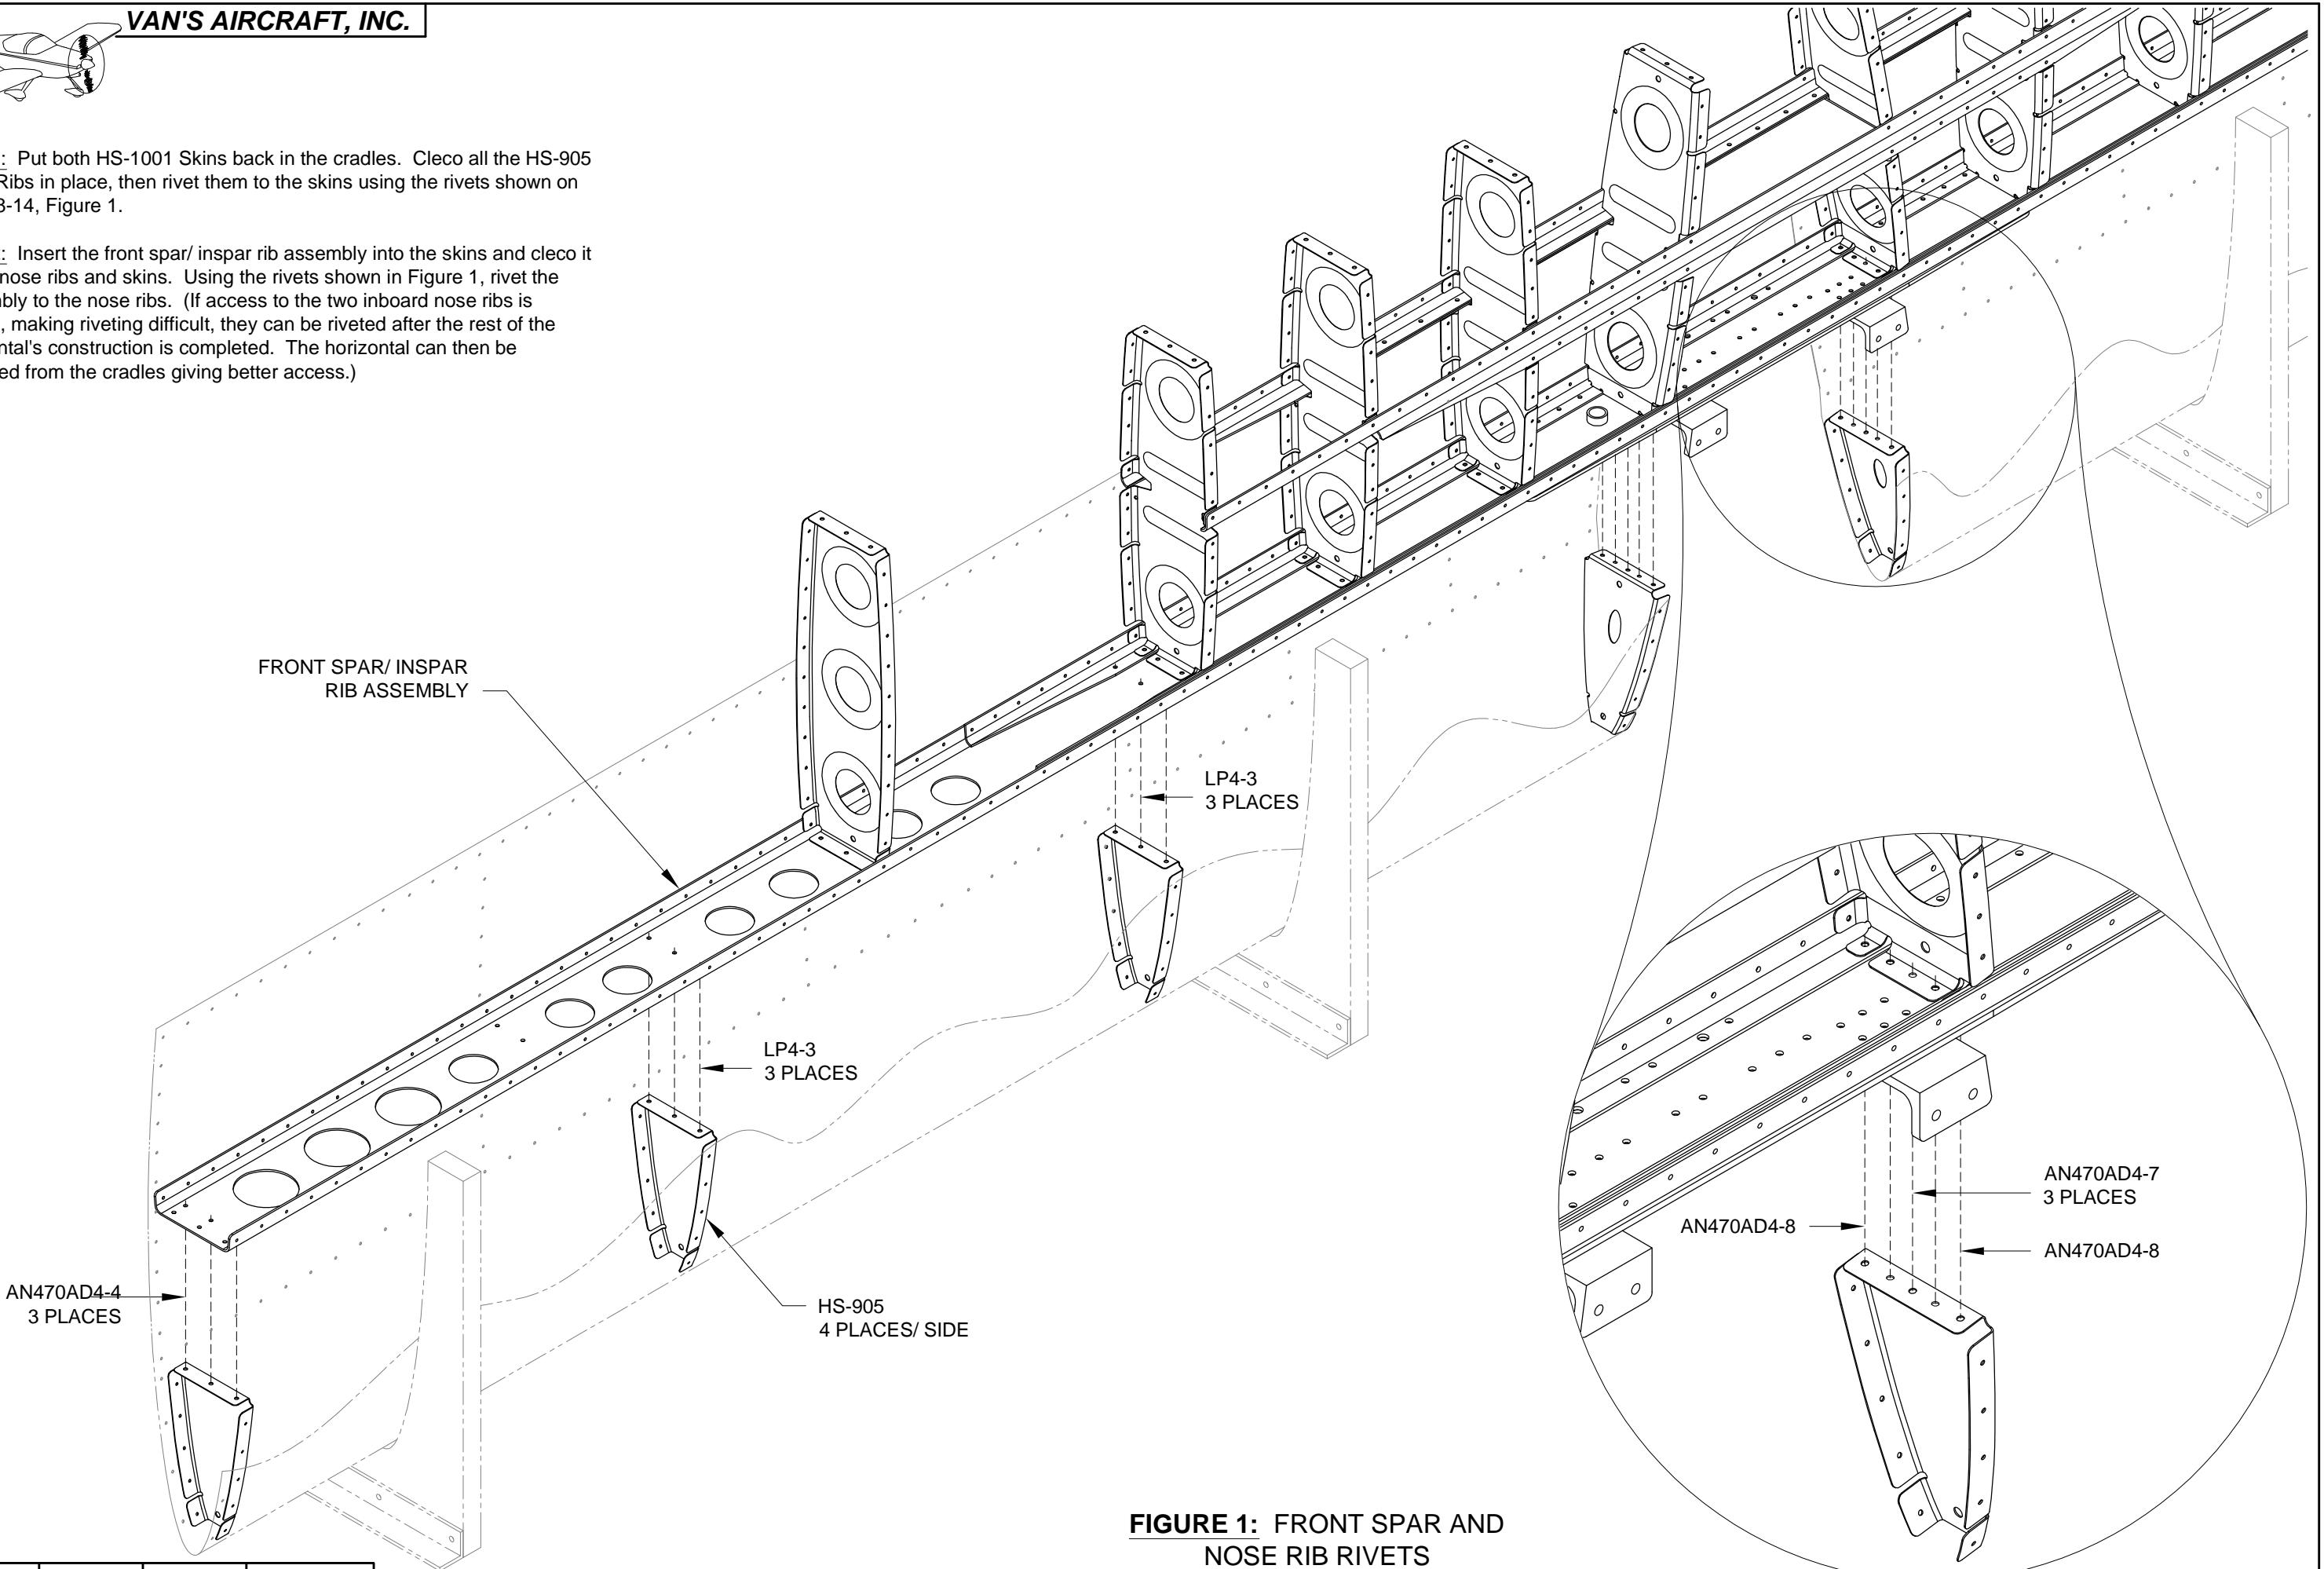

FIGURE 1: FRONT SPAR AND NOSE RIB RIVETS
Step 1: Using the rivets shown in Figure 1, rivet the last two HS-904 Inspark Ribs, on each side of the stabilizer, to the HS-1002 Front Spar web.
NOTE: The rivets used for the rest of the horizontal stabilizer can be found on Page 8-14, Figure 1.